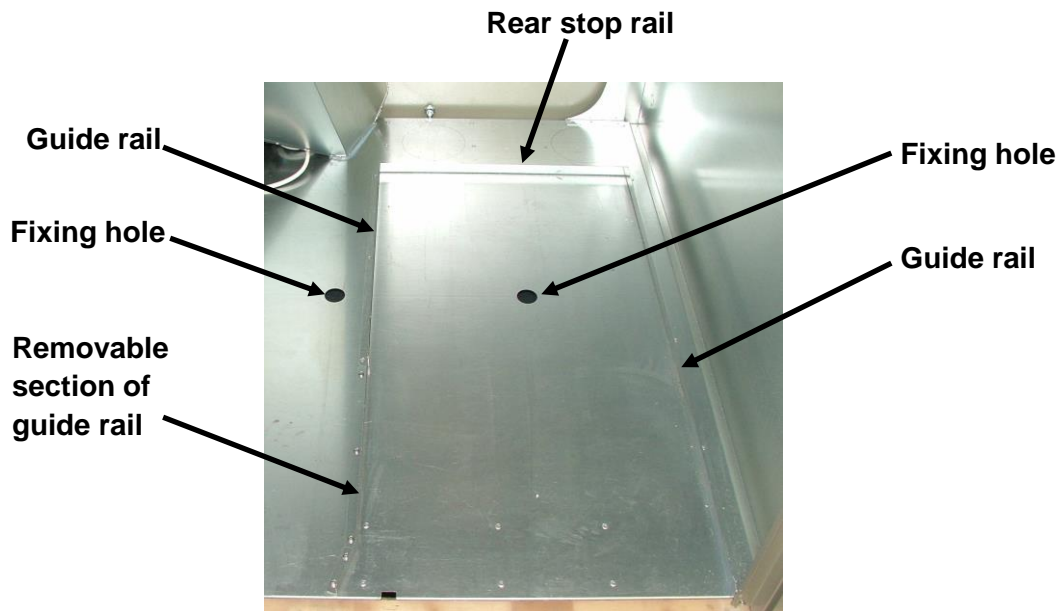

Figure 3-1. Spirapod base
Position the SpiraPod in the required position/orientation on the concrete base and secure it to the concrete, using suitable fixings (e.g. Rawlbolts or similar) through the two holes provided in the base at the front of the enclosure. Refer to Figure 3-1.
- Position the boiler inside the SpiraPod, with the combustion chamber door facing forwards, and align the sides with the two guide rails on the SpiraPod base. Refer to Figure 3-1